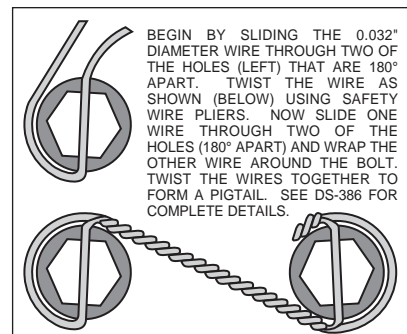

Figure 4. Safety Wire Diagram
- Bolt the hat (2) to the rotor (3) using lock washers (4) and bolts (5). Torque bolts (5) to 180 **in-lb**. Safety wire bolts (5) using standard 0.032 inch diameter stainless steel safety wire as shown in Figure 4. Please refer to Wilwood's data sheet DS-386 (available at www.wilwood.com/pdf/ds386.pdf) for complete safety wire installation instructions.
- Align the correct hole pattern in the hat (2) with the stud pattern on the axle flange. **NOTE:** Some OEM and after market axles come with stud sizes larger than 0.50" diameter. Verify stud size and have a qualified machine shop drill the hats to the correct size. Slide the hat/rotor assembly (2 and 3) over the wheel studs and against the axle flange face.
- NOTE:** Please reference the caution statement at the beginning of the assembly instructions. WITH THE BLEED SCREWS POINTING UP, mount the caliper (6) over the rotor (3) and onto the caliper mounting bracket (1) using lock washers (7) and mounting bolts (8). View the rotor through the top opening of the caliper. The rotor should be aligned in the center of the caliper. If not, adjust the caliper by using 0.032 inch shim washers (9), placing them between the caliper mounting bracket (1) and the caliper (6). Apply red *Loctite*® 271 to the mounting bolt threads (8), torque bolts to 30 ft-lb. Safety wire the caliper mounting bolts (8).
- Position the Wilwood disc brake pads (10) into the caliper (6) and fasten with cotter pin (11). Steel backing plate side of brake pad should face the caliper pistons.